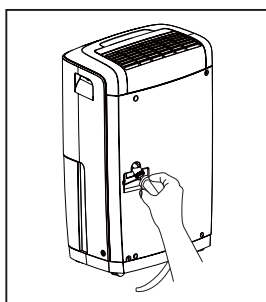

fig. 2
- Insert the female threaded end of the hose onto the drain connector of the unit. (fig.2)